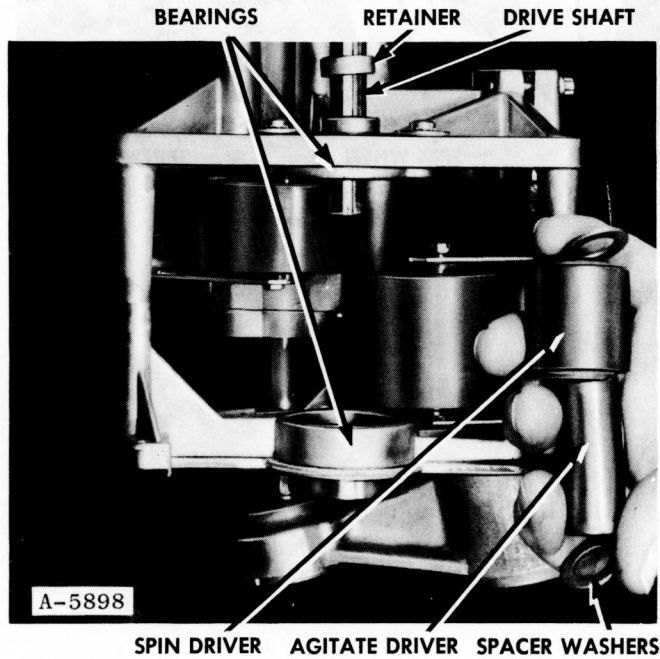

Figure 124
3. Pull drive shaft up through the bearings and drivers, Fig. 124.